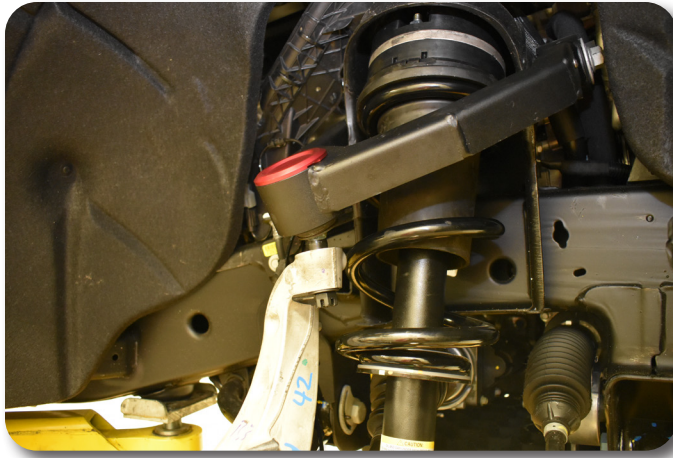

Figure 41
63. Reattach the upper ball joint to the knuckle Fig. 41. Use the jack to support the lower control arm and torque the upper ball joint nut to 26 ft-lbs with the first pass and 60-75 degrees on the final pass.